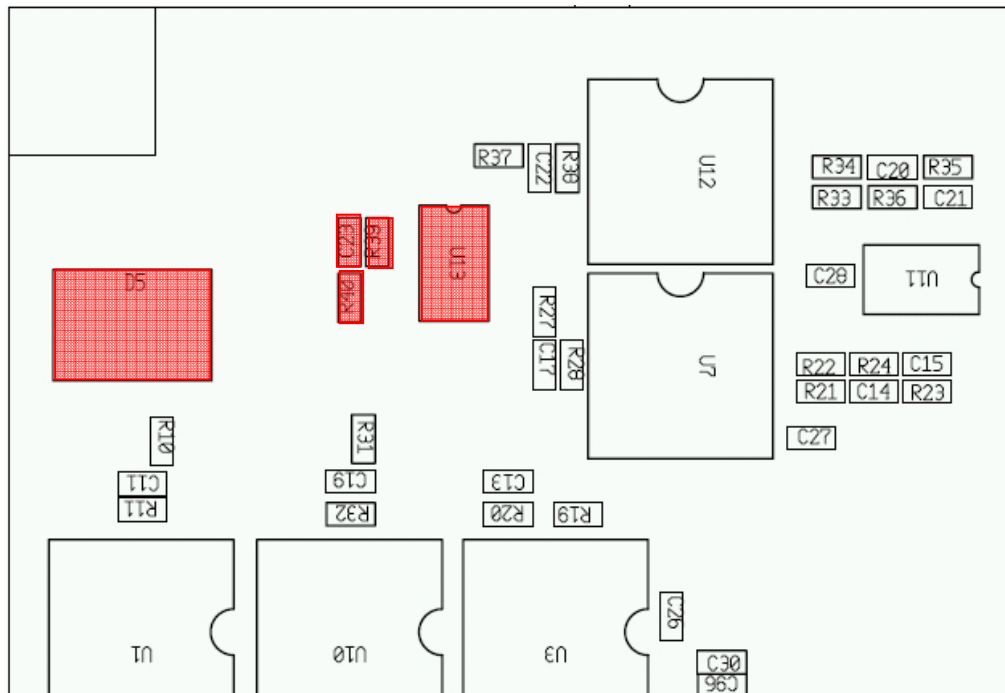

Fig.6. Unsoldered components from bottom side ELMB_MBv6.5 related to point 3-e.
- (e) Unsolder opamp U13, resistor R39, R40, and capacitor C23. Unsolder also Transil D5, see **Fig.6**.